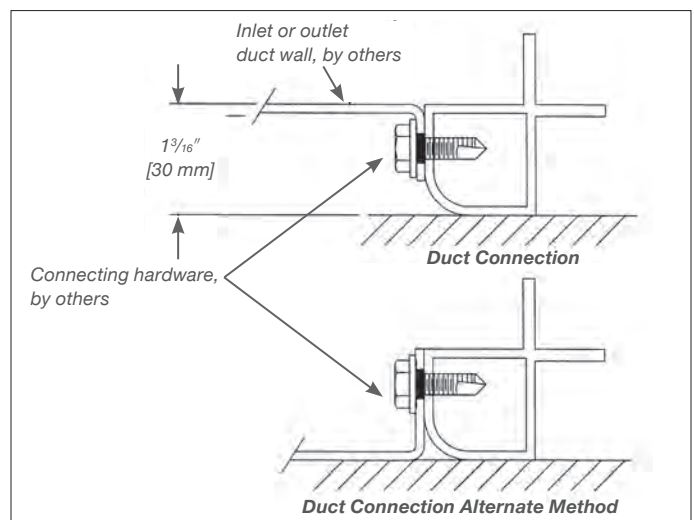

Figure 5
**3.4.3 Connection of Inlet and Outlet Ducts:** Inlet and outlet ducts, when required, should be connected to the inlet and outlet faces of the housing as shown in Figure 5.